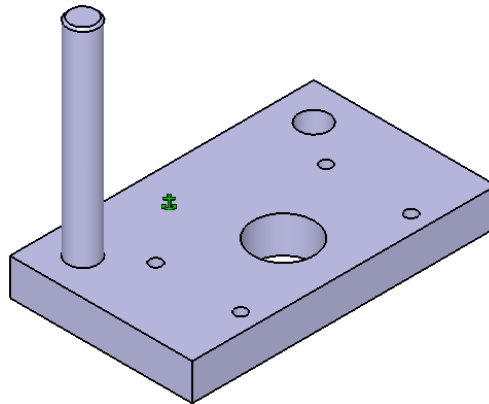

Figure 11-86 Final Guide Pillar
- c. Create the Guide Bush and Guide Pillar as subsequent components inside the product file, refer to Figure 11-86 through 11-88.
8. Turn on the display of the Bottom Plate and switch back to the **Assembly Design** workbench. The Guide Pillar in the assembly is shown in Figure 11-86.